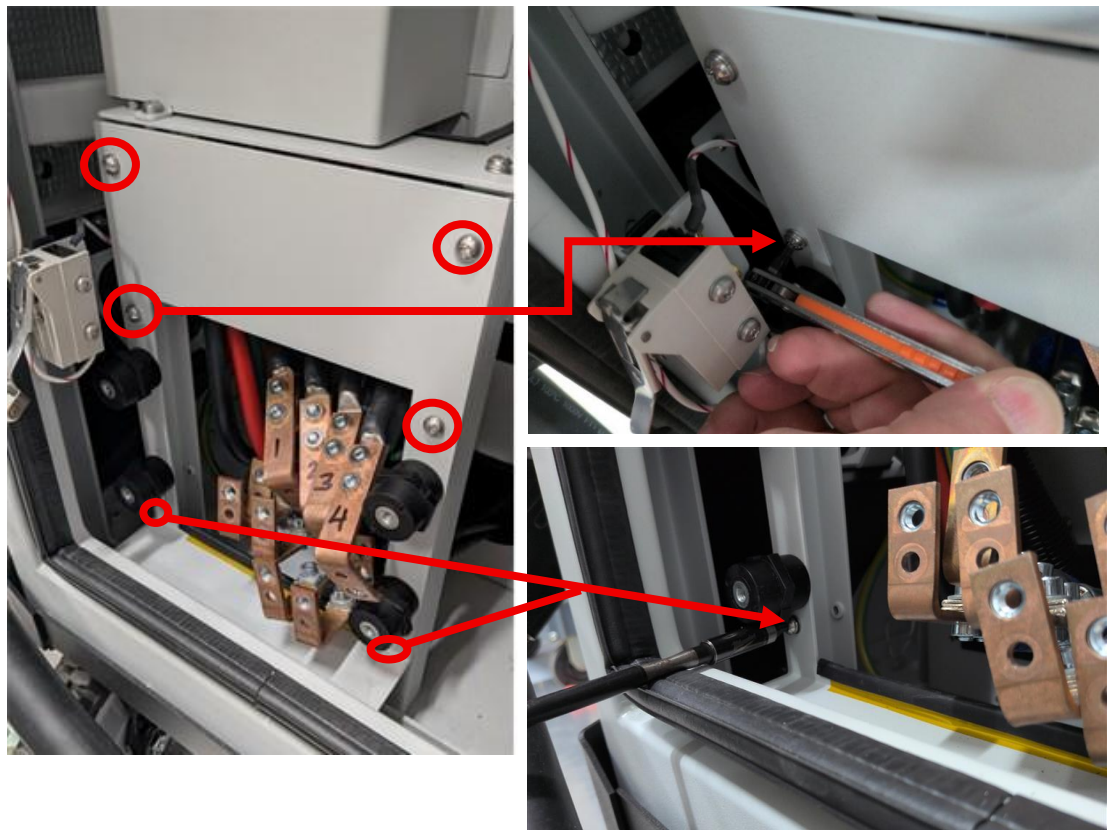

Figure 8
8. Using different Torx tools as needed, remove the six T25 Torx screws (Figure 8) from metal plate with four black standoffs attached, then set plate aside.